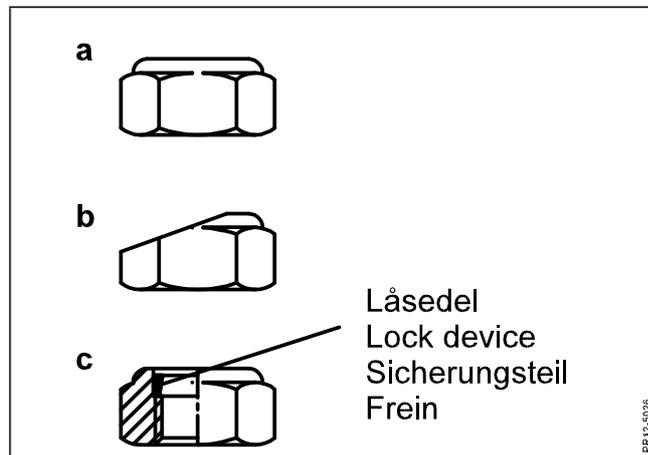

Fig. 5-5
- Fig. 5-5 The special nut must be replaced if: